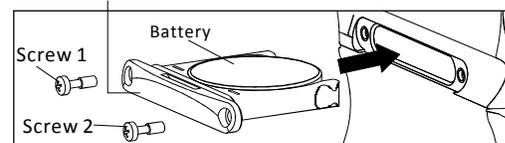

Fig 2-2
- 2) Battery installation (Fig2-2):